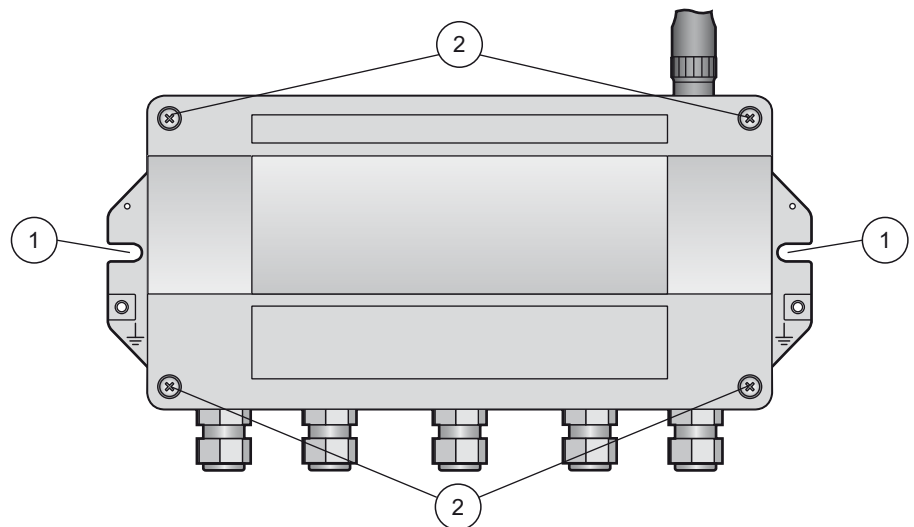

Fig. 4-5: Mounting holes and housing screws
3. Unscrew the 4 screws of the housing cover and remove the housing cover. See Figure 4-5 on page 19.
2. Unscrew the screws of the housing cover and remove the housing cover. See Figure 4-5 on page 19.